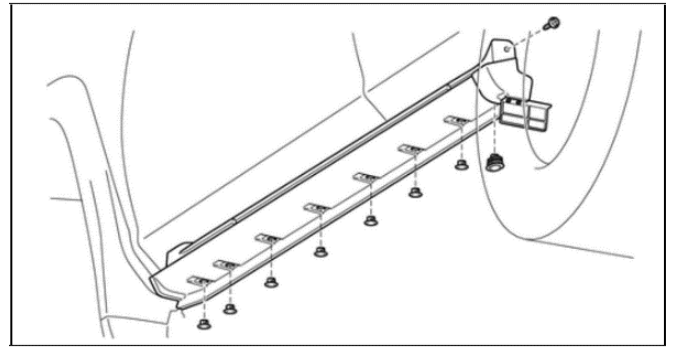

Figure 1
2. Remove 7 rocker retainer clips and discard any damaged retainer clips (Figure 1).